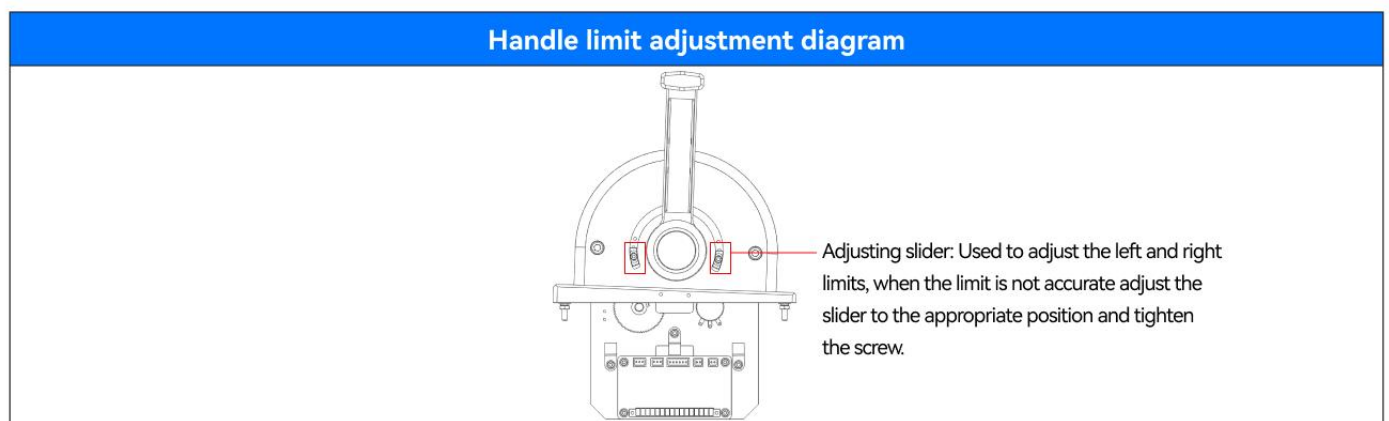

Figure 4.2
2. The adjustment of the rotating range of the handle, as shown in Figure 4.2, is used to adjust the left and right limits, and adjust the slider to the appropriate position when the limits are not accurate.